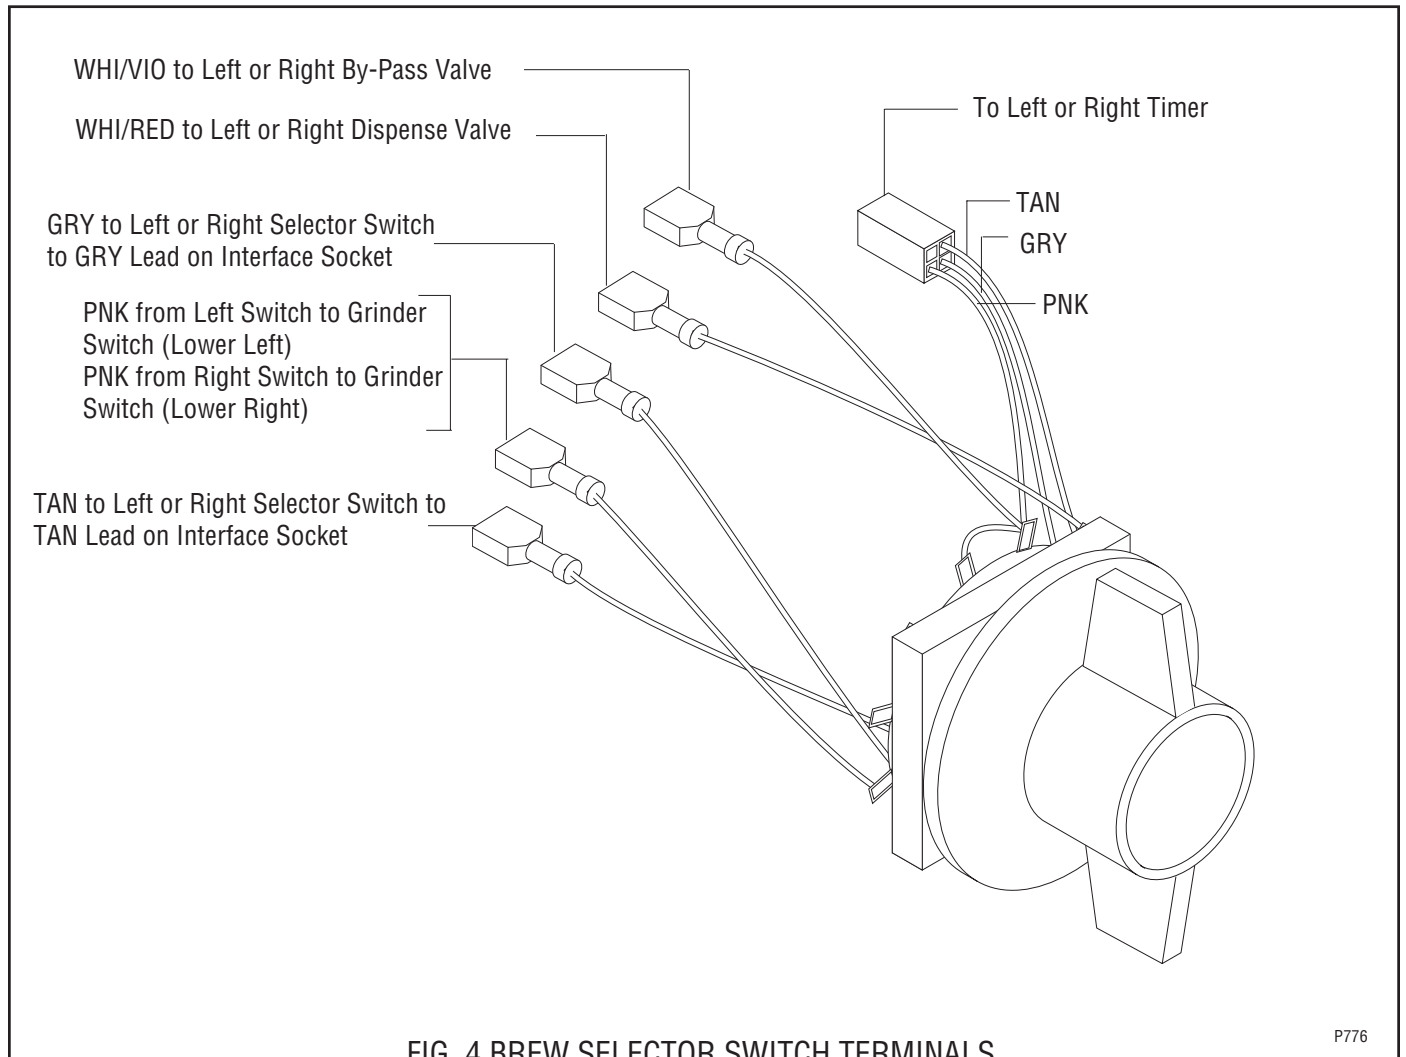

FIG. 4 BREW SELECTOR SWITCH TERMINALS
9. Refer to Fig. 4 when reconnecting the wires.